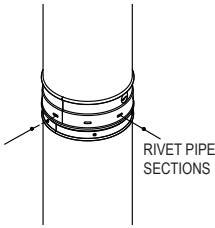

Figure 8
DuraLiner pipe (flex and rigid) has male and female connectors with (4) pre-punched holes and slots that line up and are connected with stainless steel pop rivets (Fig.8). Do not use screws. When connecting sections of flex pipe, it is necessary to first align the holes with the slots, and then drill through the flex